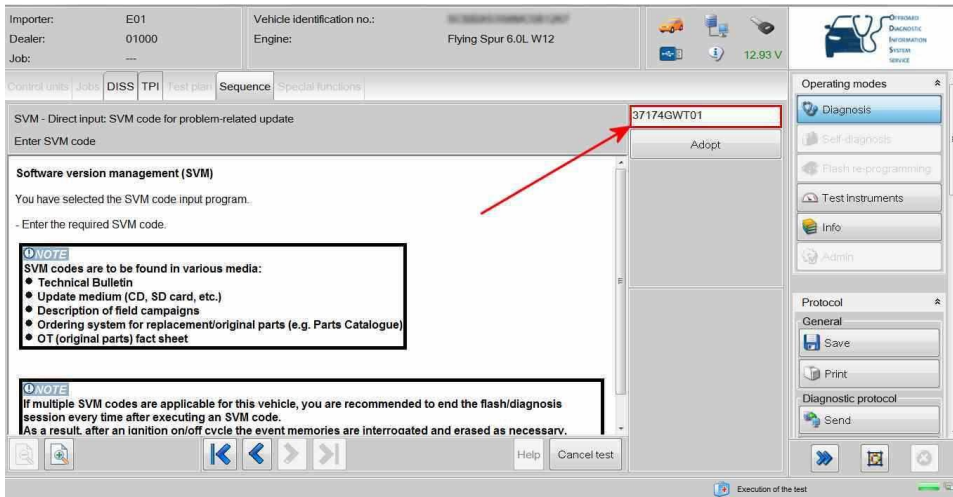

Figure 2
2) Referring to Figure 2 - Enter SVM code 37174GWT01